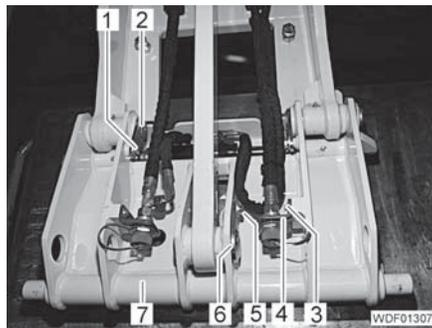

Fig. 326 Securing the tool attachment
- Unscrew the 2 screws (Fig. 326,3).
- Carefully place the 2 hydraulic lines with holders (Fig. 326,4) to one side.
- Unscrew the 3 screws (Fig. 326,1 and 5).
- Drive out the pin (Fig. 326,6) on the drawbar.
- Drive out the 2 pins (Fig. 326,2).
- Carefully raise the load arm until the tool attachment (Fig. 326,7) is free.
- Lower the load arm into the tool attachment (Fig. 326,7) so that the holes of the pin holders line up precisely.
- Drive in the 2 pins (Fig. 326,2).
- Drive in the pin (Fig. 326,6).
- Tighten the 3 screws (Fig. 326,1 and 5).
- Position the 2 holders (Fig. 326,4) with hydraulic lines.
- Screw in and tighten 2 screws (Fig. 326,3) on each side with spring lock washers and disks.